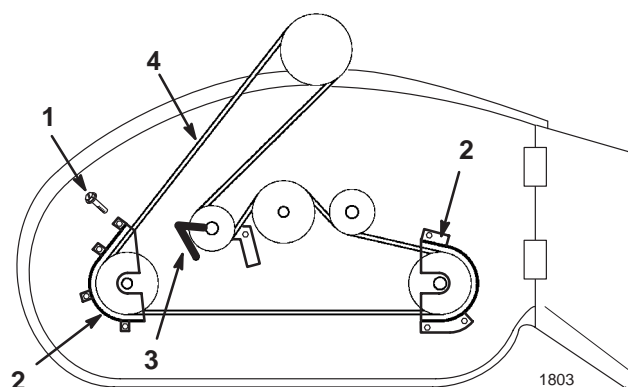

Figure 48
2. Remove the pulley cover mounting screws and pulley covers from both blade pulleys (Fig. 48).
3. Loosen the pivoting idler pulley mounting bolt to allow the belt past the belt guide (Fig. 48).
4. Remove the belt from the pulleys (Fig. 48).
2. Tighten the idler pulley mounting bolt (Fig. 48).
3. Install the left and right pulley covers with the mounting screws (Fig. 48).